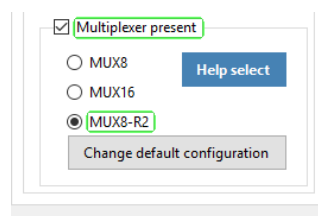

Figure 4 Multiplexer presence in General Settings
3. Connect the reference electrode lead of channel 1 (blue plug) to your working electrode 1. Connect the reference electrode lead of channel 2 (blue plug) to your working electrode 2 and so on (see Figure 4).
3. Check *Multiplexer present* and choose the MUX8-R2 (see Figure 4).